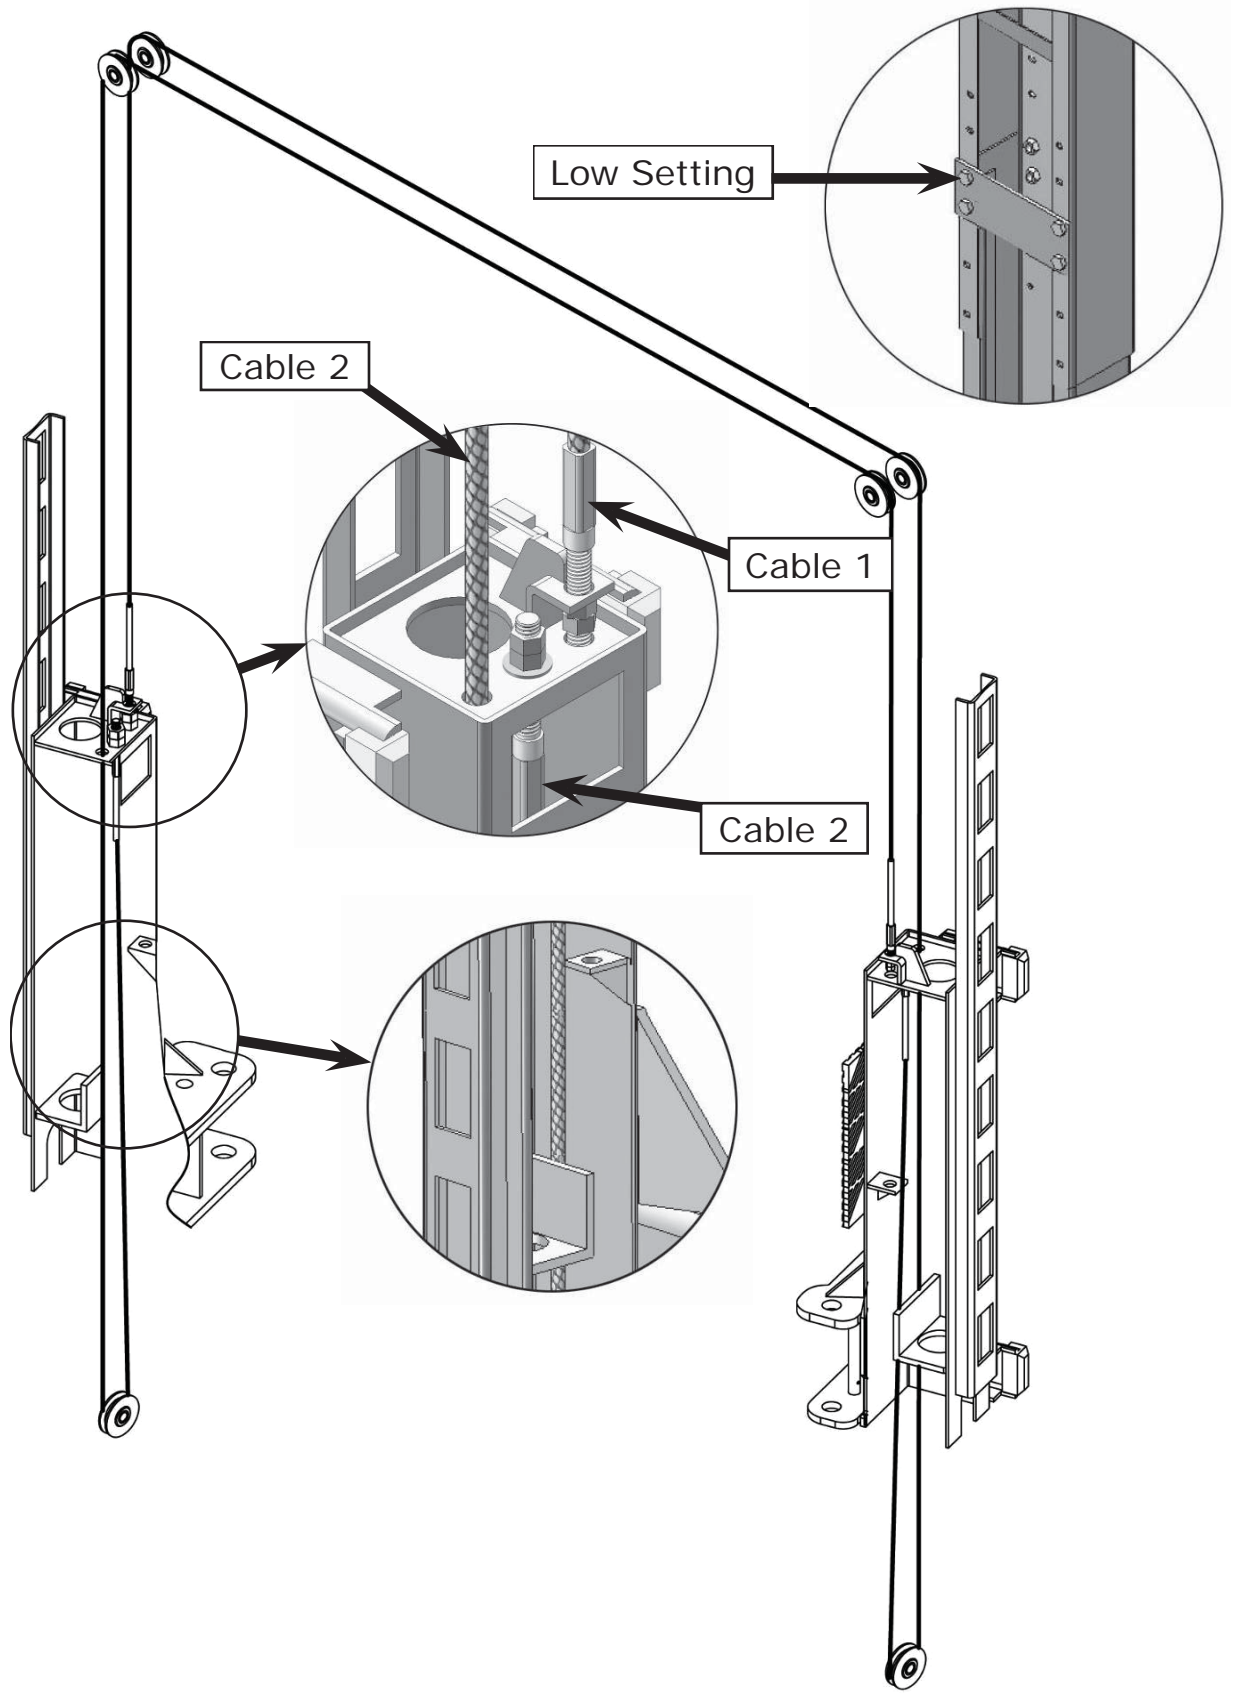

Fig. 29
2. **Low setting cable connection**, suitable for ceiling heights between 4200mm (165 3/8") to 4500mm (177 1/8") **(See Fig. 29)**.